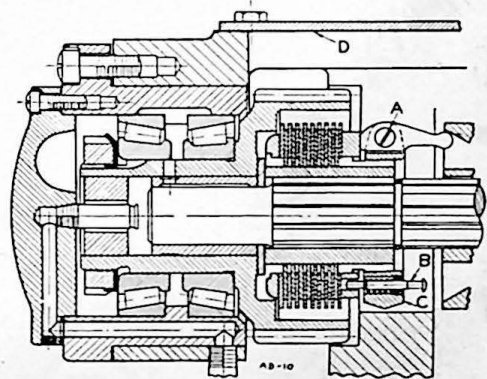

Figure 25
1. Remove the small brass cover "D" which is held to the feed box by four $\frac{1}{4}$ " hex head cap screws, Fig. 25. (These instructions are also engraved on this cover).